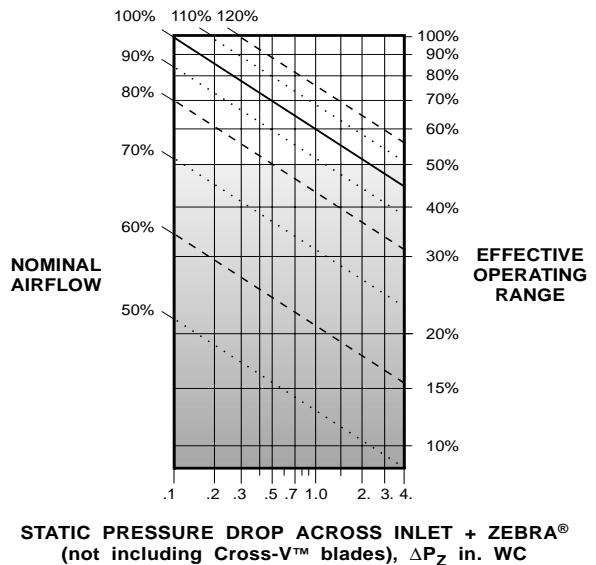

Figure 2. Controllability Graph
Figure 2 shows the effect of airflow rate and  $\Delta P_z$  on controllability for VAV valves. The maximum operating range of a VAV valve is the physical distance (linear or rotational) in which it modulates. The Effective Operating Range is equal to the maximum operating range minus the amount the valve must close to compensate for the system static pressure at the design airflow rate. Optimum controllability is attained by selecting the smallest sized unit which meets the design airflow and sound requirements.
- E. Check the effective operating range of each inlet against the design requirements using Figure 2 (page 2). Find Y-axis value:
- F. Use the % Nominal Airflow and Actual  $\Delta P_z$  with Figure 2 to find the effective operating range. If the selected unit's range falls below 50% on the graph, the next smaller unit should be considered. Reselect, and repeat steps C through E.
- F. Figure 2 (page 2) indicates that the cold-inlet effective operating range at 100% of Nominal airflow for 0.92 in. WC is 60% (ranges below 50% are not recommended). The hot-inlet range at 91% of Nominal for 0.59 in. WC is 58% (acceptable).